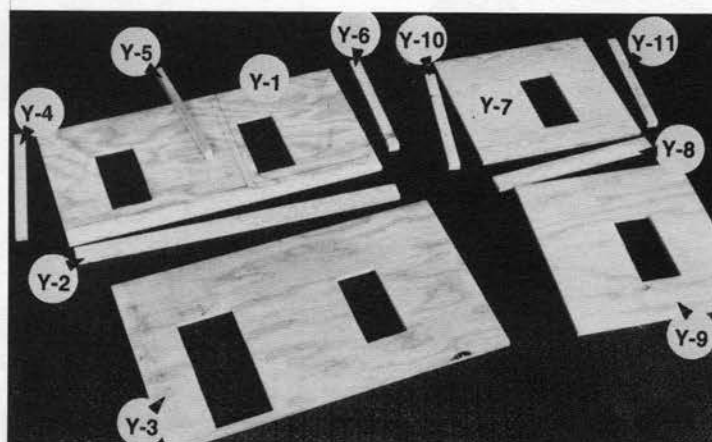

Fig. 1
STEP 1: Lay out parts Y-1 through Y-11 and make sure each is right side up, (FIGURE 1).